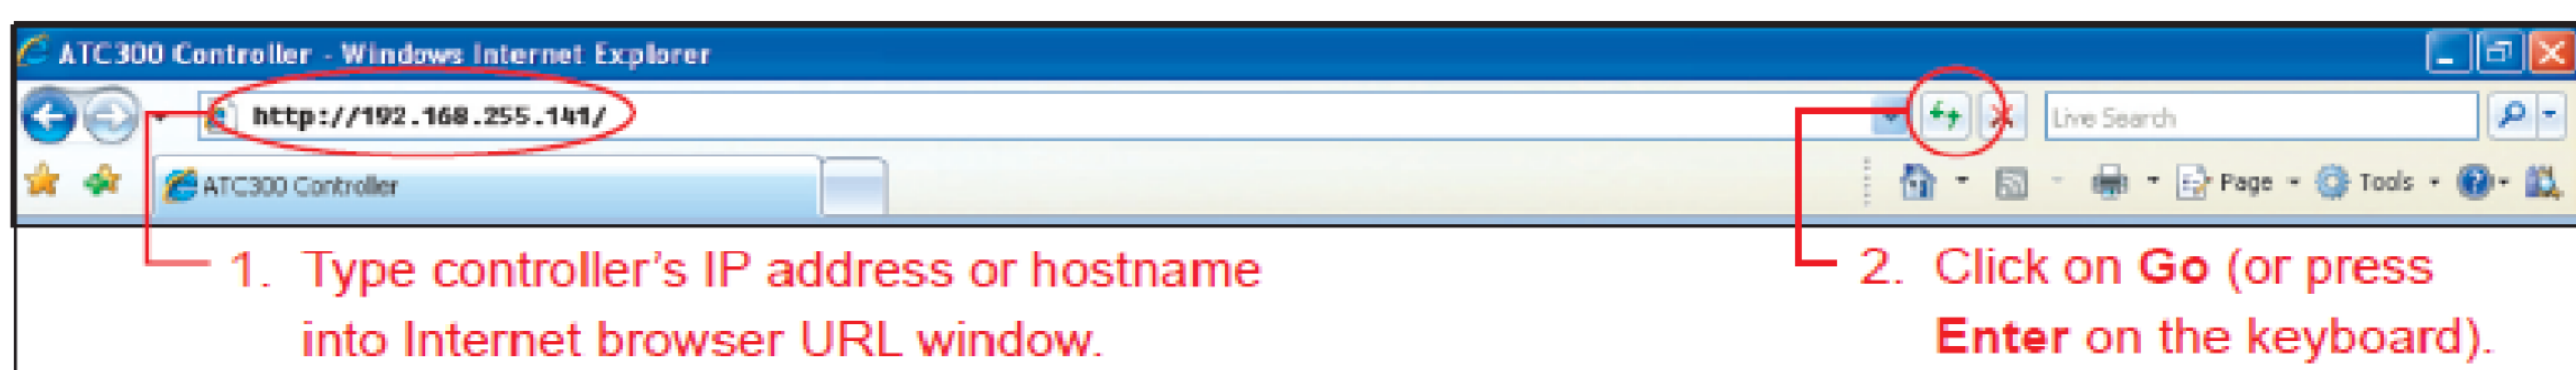

Figure 2-1. Entering Controller's IP Address Into Internet Browser.
- Type the controller's IP address or hostname into Internet browser URL window. The factory default IP address is 192.168.255.141. See Figure 2-1.